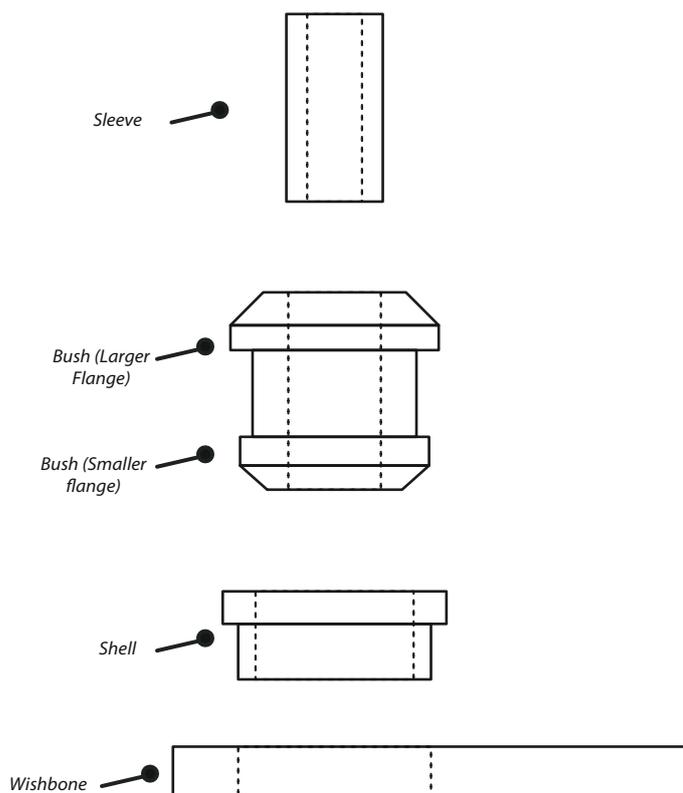

Figure 1
3. Press the Zinc-Plated Mild Steel Outer Shell into place in the wishbone, with the flange towards to the top of the wishbone. (Figure 1)
4. Press the polyurethane bush into the outer shell from the top, with the small flange towards the bottom of the wishbone. Washing up liquid can be used to help lubricate this process. (Figure 1)
6. Push the sleeve into the bush, so that it sits flush with top of the bush. (Figure 1)